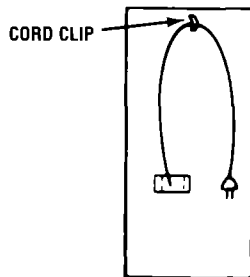

FIGURE 9
3. Be sure the cord clip on the cord is attached to the clip on the rear of the cabinet as shown in Figure 9.